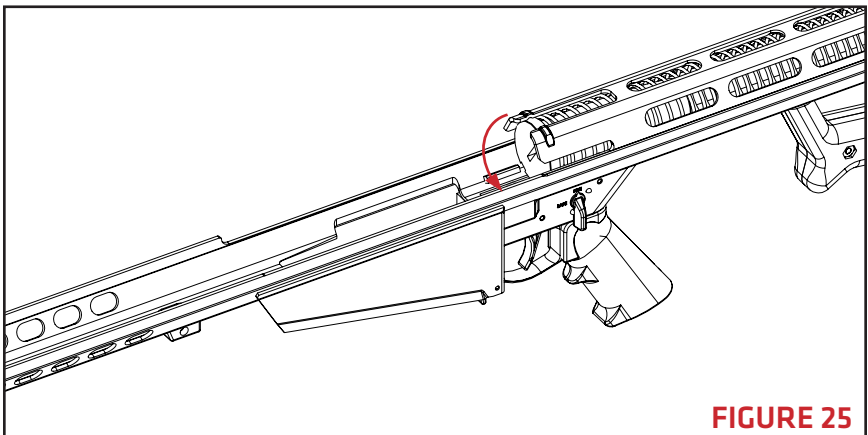

FIGURE 25
2. Push the buffer and mainspring into the lower receiver in one continuous, fluid motion. Once pushed past the buffer stop, rotate the buffer to lock it behind the buffer stop. (FIGURE 25).